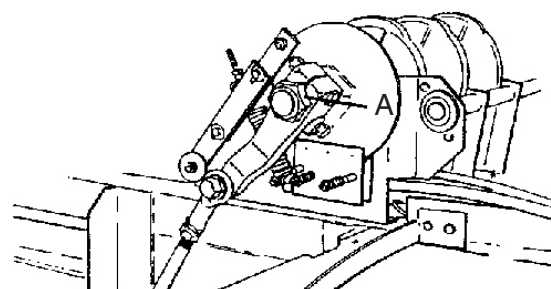

Figure 119. Adjusting Nut
Make this adjustment with shims between the cam gears and knotter frames. Shimming must be done between the cam gears and the knotter frames any time a knotter is assembled. Take out excess space between the cam gears and the knotter frames by adjusting nut (A), see Figure 119. Tighten nut until knotters will just hold their own weight when rotated up to horizontal.